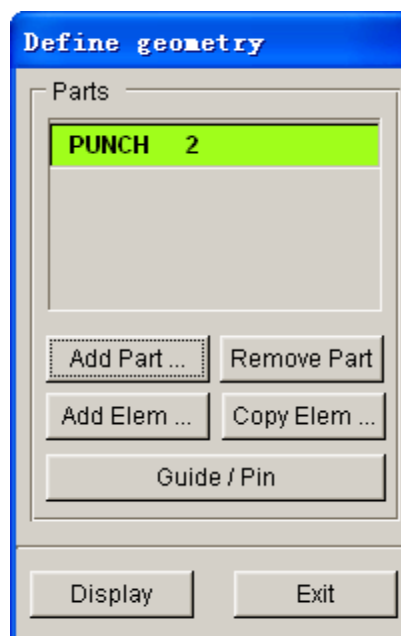

Figure 2.24 Punch geometry list
7. Click **OK** button to return to the DEFINE GEOMETRY dialog box. **PUNCH** part is added to the list of punch. See Figure 2.24.